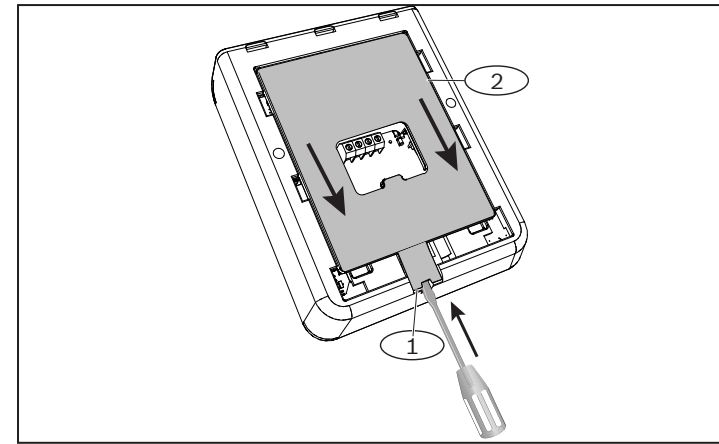

Figure 2.1: Removing mounting plate from keypad
- To release the retention clip, insert a slotted screwdriver under it. Do not pry upwards. Refer to *Figure 2.1*.
- To unhook the mounting plate from the keypad, use your other hand and slide the mounting plate toward the bottom of the keypad. Refer to *Figure 2.1*.